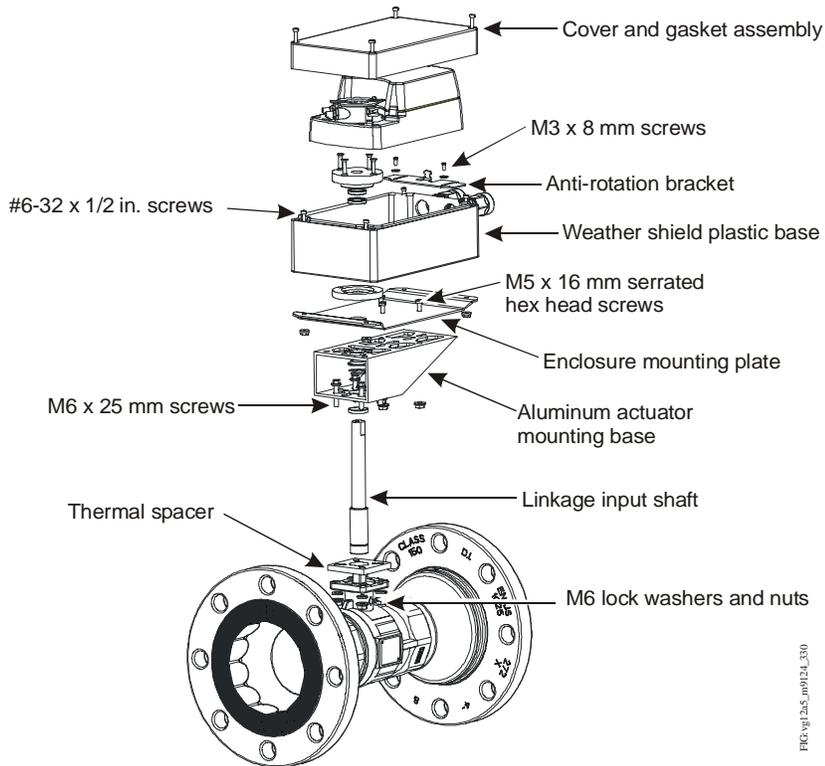

Figure 2: Exploded View of VG12A5 Series Flanged Ball Valve with M9124 Non-Spring Return Actuator and M9000-330 Weather Shield Kit
1. This kit does not include the M9000-51x Series Valve Linkage Kit (Figure 2). This item must be ordered separately.